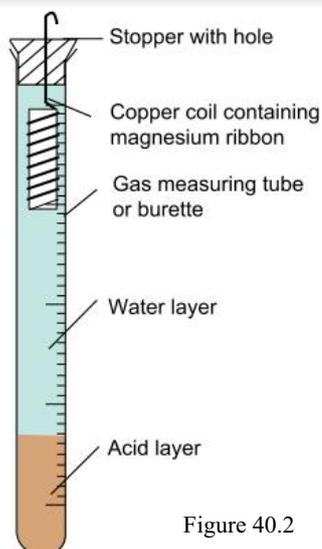

Figure 40.2
4. Pour 15 mL of 3 mol L^{-1} hydrochloric acid into the gas measuring tube. Carefully fill the tube with tap water from the beaker so that the acid layer remains at the bottom of the tube as shown in Figure 40.2.
5. Hold the copper coil by the handle and insert it into the tube. Place the hook in the handle over the edge of the gas measuring tube and fix it in position by inserting the one-hole rubber stopper as shown in Figure 40.2. The tube should contain no air bubbles and water should fill the hole in the stopper.